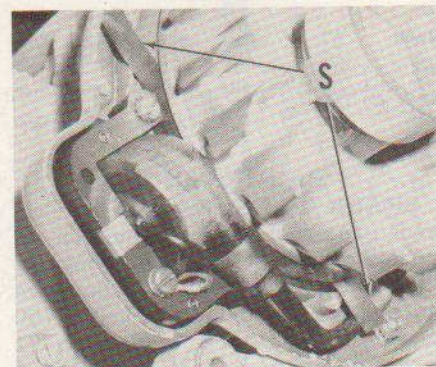

Fig. PR3-7—View showing method of checking air gap using shim stock (S).
**MAGNETO AND TIMING.** The breaker points, cam and condenser are located under the flywheel. Flywheel retaining nut is left hand thread. Breaker point gap should be 0.020 inch and armature air gap (Fig. PR3-7) should be 0.008-0.012 inch. Condenser capacity should be 0.18-0.22 Microfarads. Ignition should occur (breaker points just open) at 30 degrees BTDC. Timing can be adjusted only by changing the breaker point gap. The flywheel nut should be tightened to 25-30 Ft.-Lbs. torque.